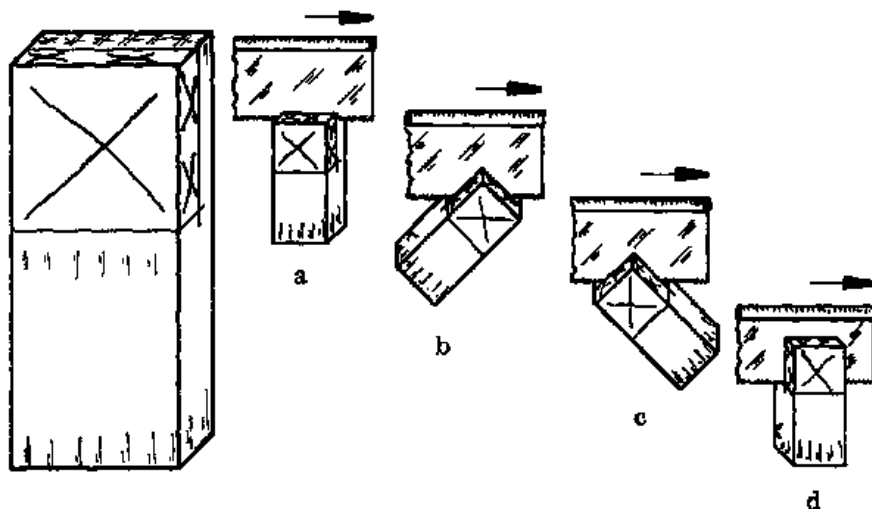

Fig. 5
- Rip the thickness of the pin. Cut in stages as shown in Fig. 5, a through d. Take care to keep on the waste side of the line.